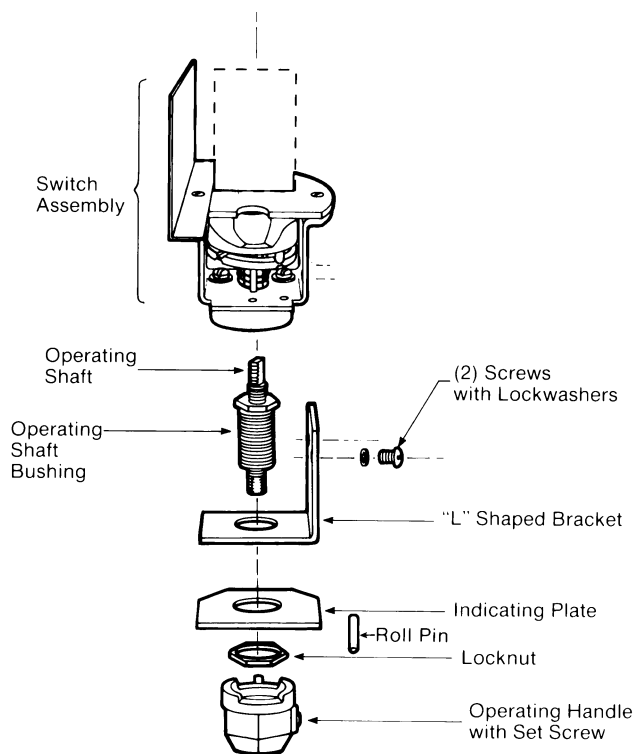

Figure 5.
4. Remove selector switch assembly. See Figure 5.